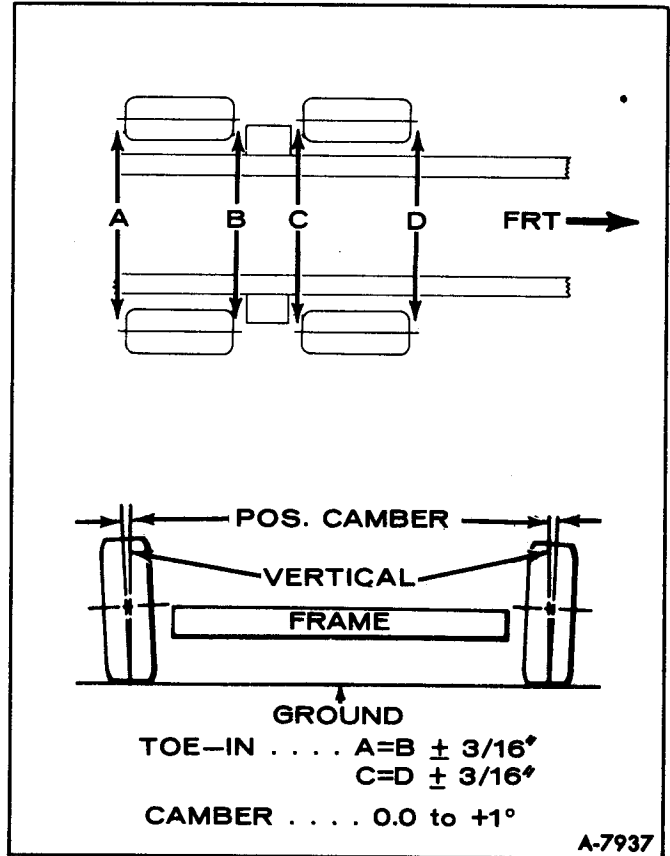

Figure 19—Rear Wheel Alignment Chart
**NOTE:** Both sets of tandems should be checked for toe-in to assure alignment of front and rear tandems (see figure 19).
To check camber, use an accurate gauge. The camber should be set at 0° to +1°. (See figure 19.)